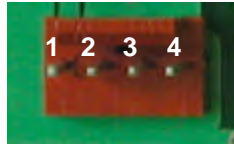

Figure 2-2 Power connector
4. Connect the power connector; making sure that the +5V goes to V+ as shown in Figure 2-2. Turn on the power: the LCD backlight should come on and you should see a blinking cursor at the top left.